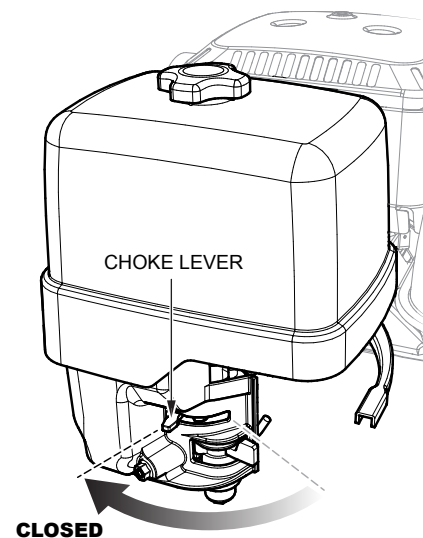

Figure 11. Engine Choke Lever (Open)
5. Place the choke lever (Figure 11) in the **OPEN** position if starting a warm engine or the temperature is warm.
8. If the engine has started, and the choke lever was moved to the **CLOSED** position to start the engine, gradually move the choke lever to the **OPEN** position (Figure 11) as the engine warms up. If the engine has not started repeat steps 1 through 6.